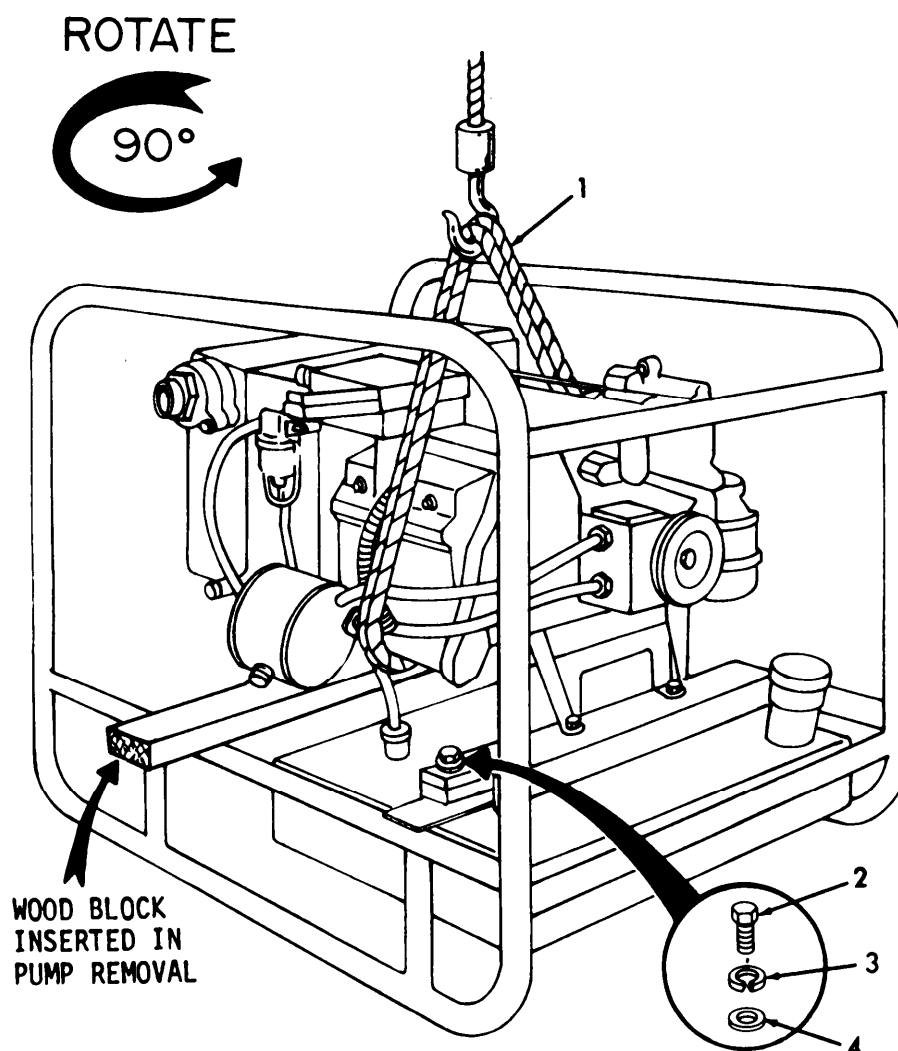

Figure 4-4. Engine removal.
- (1) Remove exhaust system as per 4-3.
- (2) Remove fuel lines and filter as per 4-2.2.
- (3) Remove centrifugal pump as per 4-6.2.
- (4) Refer to figure 4-4. Install sling (1) and support engine weight.
(1) Refer to figure 4-4. Repeat the removal procedure in reverse sequence.